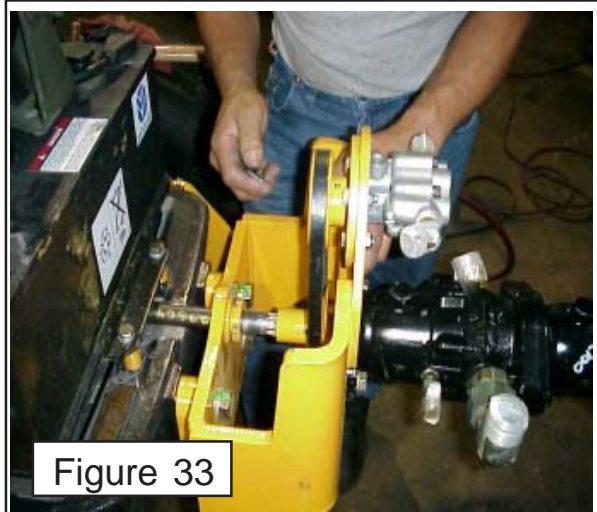

Figure 33
- D. Align Aux Pump Drive Pulley. With The aux. pump mount plate firmly tightened and the drive belt on the pulley, but not adjusted tight. Slide the pump drive pulley, but not adjusted tight. Slide the pump drive pulley on the pumpshaft until the upper pulley is aligned with the lower one. once the pulleys are aligned tightren the retaining set screw in the upper pulley to secure it to the pump shaft. (See Figure 33)